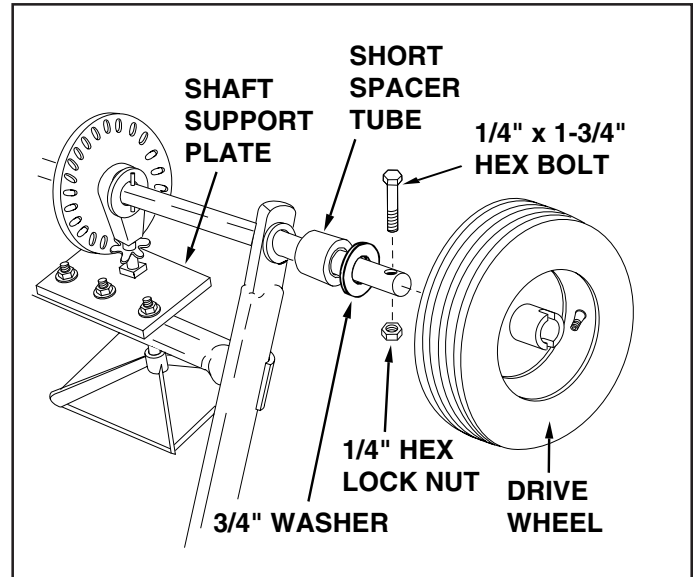

FIGURE 2
- 5. Place the short spacer tube and a 3/4" washer onto the end of the axle that has the large drilled hole (left hand side). See figure 2.
- 6. Place the drive wheel onto the axle. The notched hub and the air valve should face to the outside. See figure 2.
- 7. Fasten the wheel to the axle using a 1/4" x 1-3/4" hex bolt and a 1/4" hex lock nut. See figure 2.